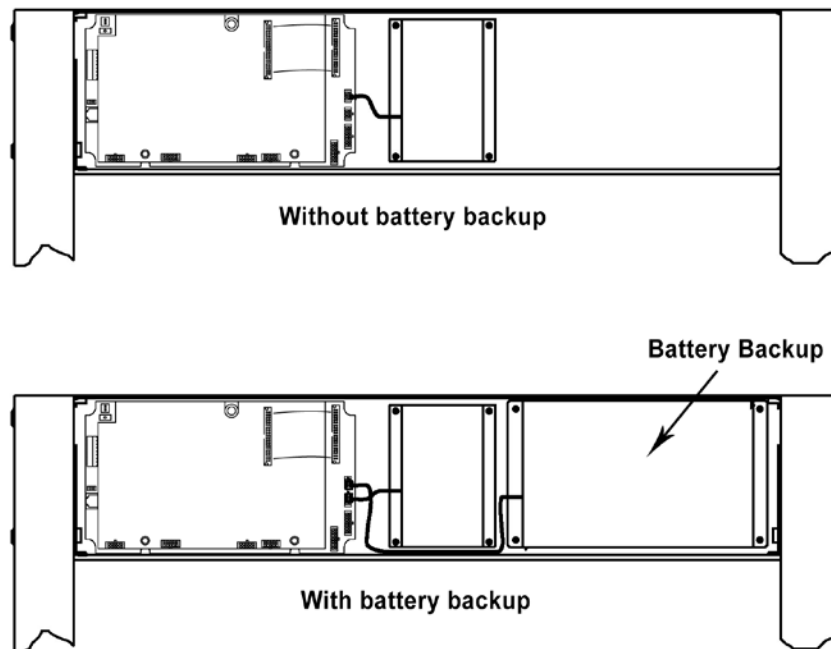

Figure 8-1
(See Figure 8-1.)
7. Reconnect the power supply and battery pack modules. (See Figure 8-1.)